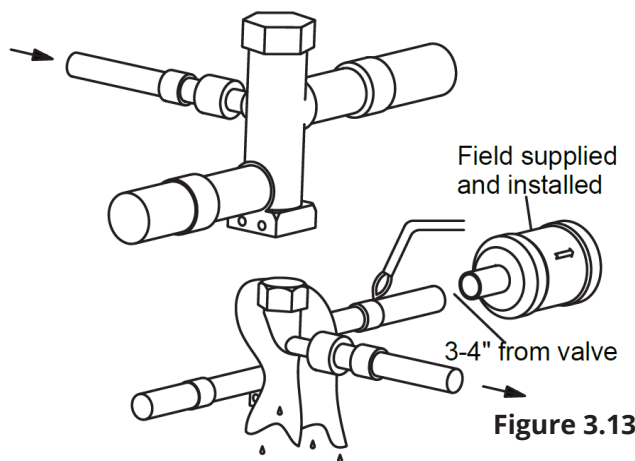

Figure 3.13
4. Wrap a wet cloth around the valve body to avoid heat damage and continue the dry nitrogen purge. (Figure 3.13).